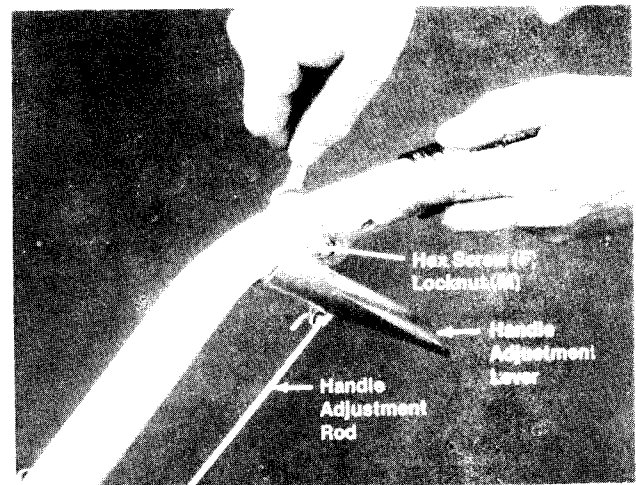

FIGURE 12.
- K. To assemble the handle adjustment lever, hook handle adjustment rod (already on handle) into lever. Hook to the outside. See figure 12.
L. Place handle adjustment lever in place on handle and secure with hex screw (F) and locknut (M). See figure 12. Do not over tighten handle adjustment lever must pivot freely.